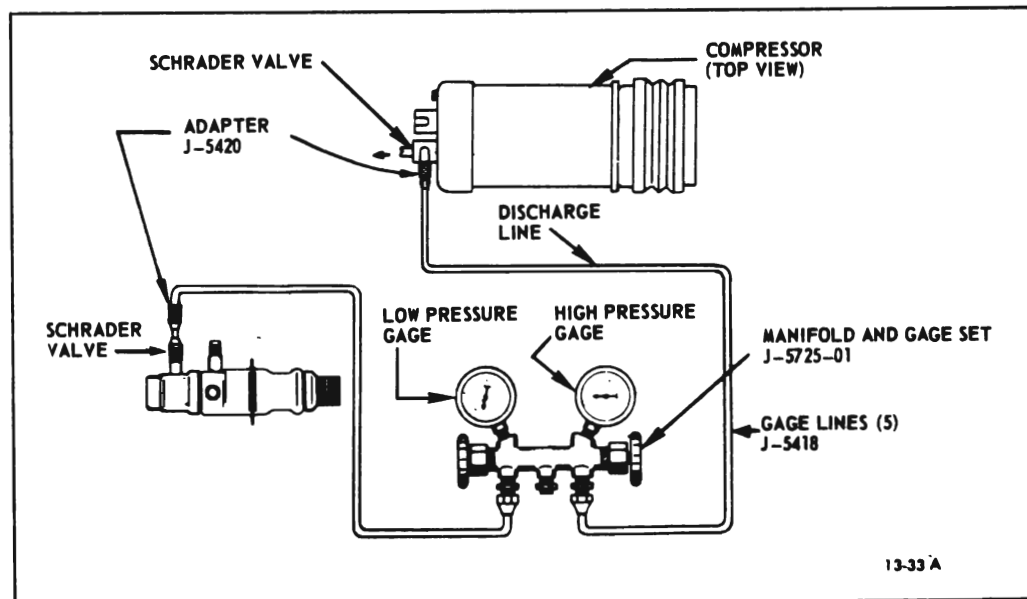

Figure 13-143 Functional Test Set-Up
2. Interconnect manifold and gage set (J-5725-01), gage charging lines (J-5418) and gage adapters (J-5420) to air conditioning system as shown in Figure 13-143.